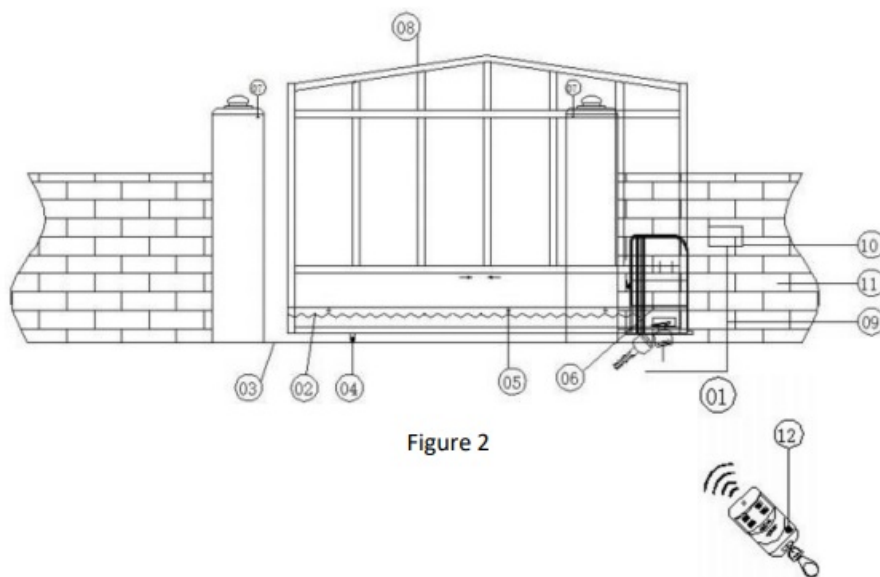

Figure 2
Refer to Figure 2 for installation guidance. Ensure proper remote control functionality for safety. Install a limiting device to prevent the door from falling off the track. Mount rails horizontally and straight.
1. The installation of the door opening machine and the sliding door can be referred to Figure. 2, and can be controlled by remote control to ensure safety. We recommend installing a limiting device to prevent the door from falling off the track when moving. The rails must be mounted horizontally and straight.